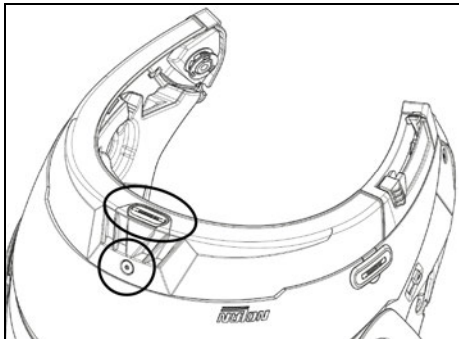

Fig. 1
- Remove the helmet edge gasket using the special tool (Fig. 1).
- Remove the “N-Com” plug found at the back of the shell gasket (Fig. 1).